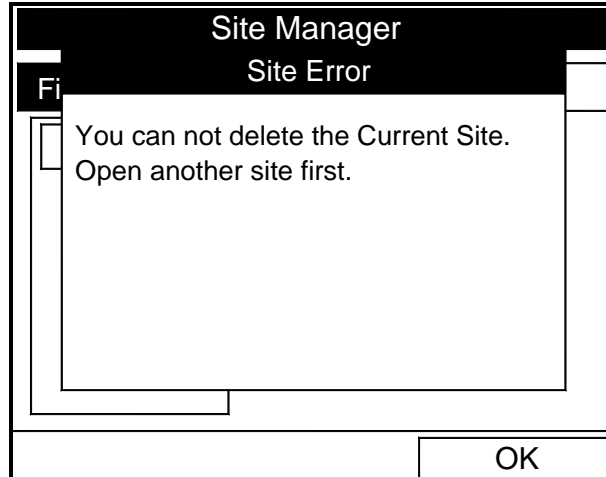

Figure 3-10: Site Error Window
To delete a site in the Site Manager, first highlight that site in the left window of the Site Manager. Then press [MENU] to open the File Menu, scroll to the Delete option, and press [ENTER]. You cannot delete the current (open) site. If you try, the following display appears (see Figure 3-10 below). Press [F3] (OK) to return to the File Menu.